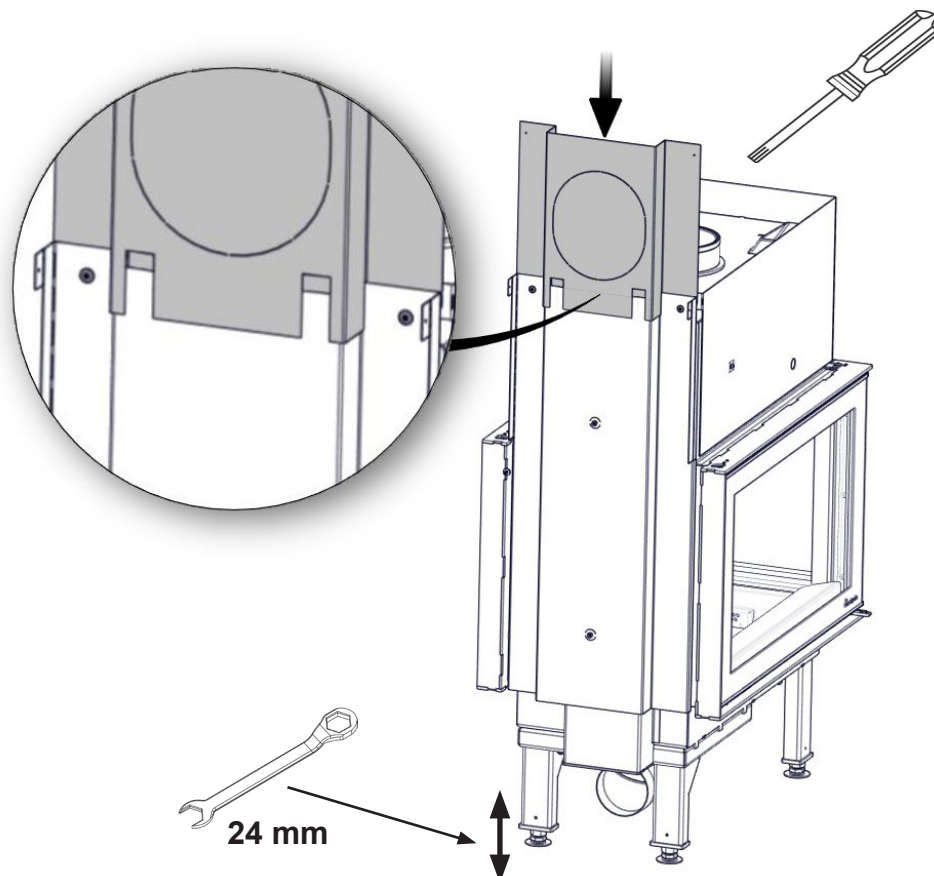

**FIG 12**
**FIG 12 a** Radiation shield assembling